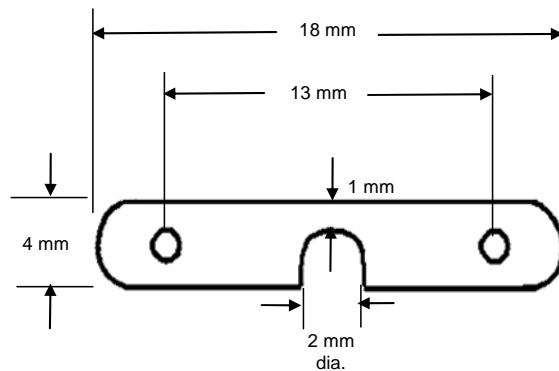
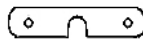

Figure 19. Bogie Frame Dimensions
Figure 20. Bogie Frame Template
The dimensions of the two rear bogie frames are given in Figure 19, or you can use the template in Figure 20 - just print out this page and cut out the template.
- 1) Fabricate two bogie frames from 1 mm styrene using the template in Figure 20. The shape of these frames is purely arbitrary so feel free to modify it or design your own.